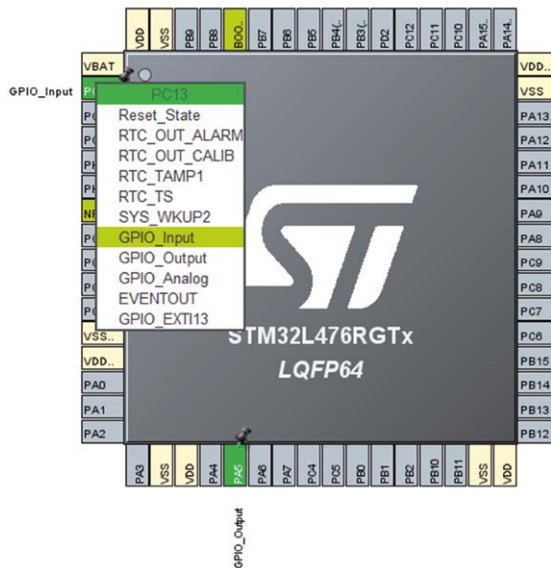

Figure 5.36: Configure PC13 as digital input.
- click pin **PC13** and configure it as digital input (**GPIO\_Input**) as shown in Figure 5.36;